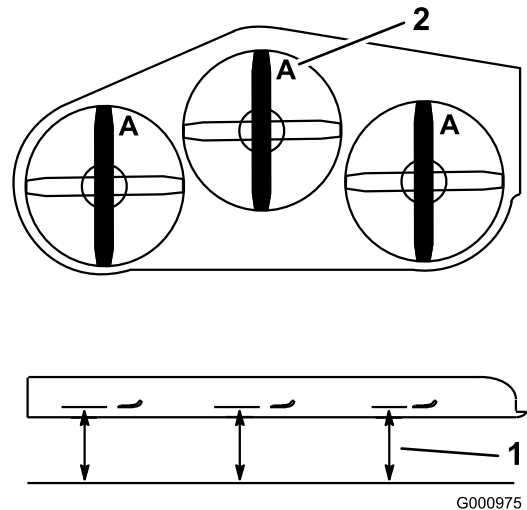

Figure 91
3. Rotate the blades until the ends face forward and backward (Figure 91). Measure from a level surface to the cutting edge, position A, of the blades (Figure 91). Note this dimension.